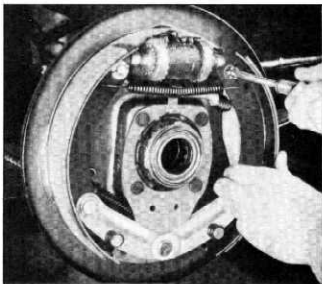

Fig. 20—Adjusting Rear Brake Toggle
2. Hold the toggle lever against the shoe and turn the eccentric bolt until there is only a slight clearance between the lever and the bottom of the slot in the parking brake extension link (fig. 20).